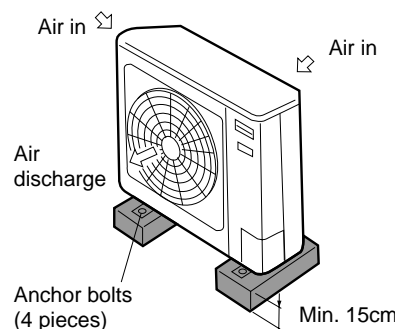

Fig. 1-5
- provide a solid base; about 15 cm above ground level to reduce humidity and possible water damage in unit and decrease service life. (Fig. 1-5)
- provide a solid base (concrete block, 10 × 40 cm beams or equal), a minimum of 15 cm above ground level to reduce humidity and protect the unit against possible water damage and decreased service life. (Fig. 1-5)